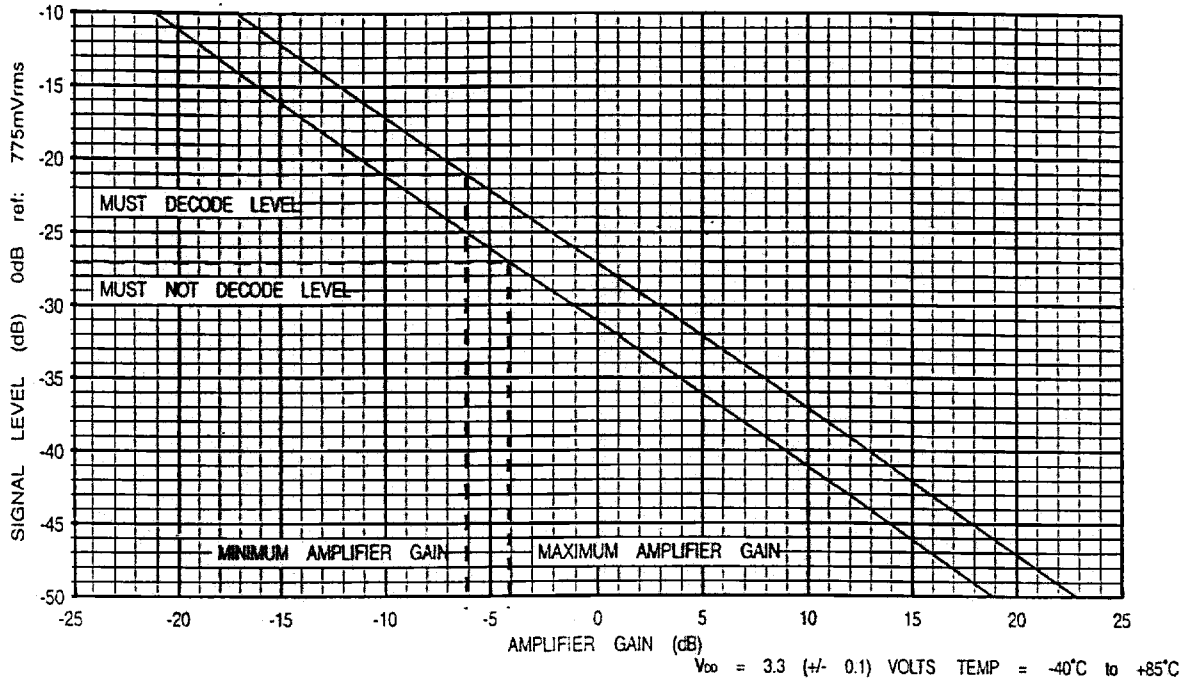

Figure 4: Input Gain Calculation Graph for $V_{DD} = 3.3V$
With reference to the graph in Figure 4, the following steps will assist in the determination of the required gain/attenuation.
1. Draw two horizontal lines from the Y-axis [Signal Level (dB)] in Figure 4. The upper line represents the required 'Must' decode level. The lower line represents the required 'Must-Not' decode level
Component tolerances should not move the gain-figure outside these limits. The graph in Figure 4 is for the calculation of input gain components for a CMX631A using a V_{DD} of 3.3 (± 0.1) or V_{DD} of 5.0 (± 0.5).